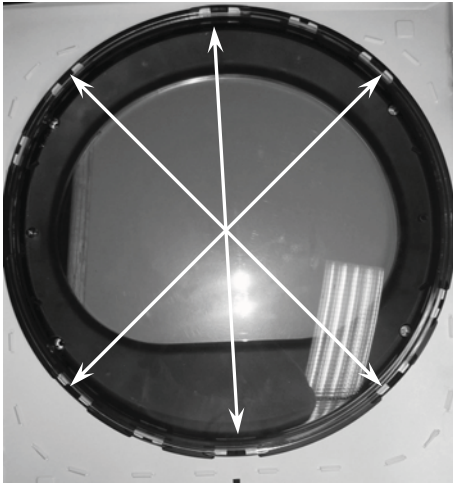

Figure 8
9. Disengaging several of the retention tabs and pull lens away from the transition ring. (Figure 8)